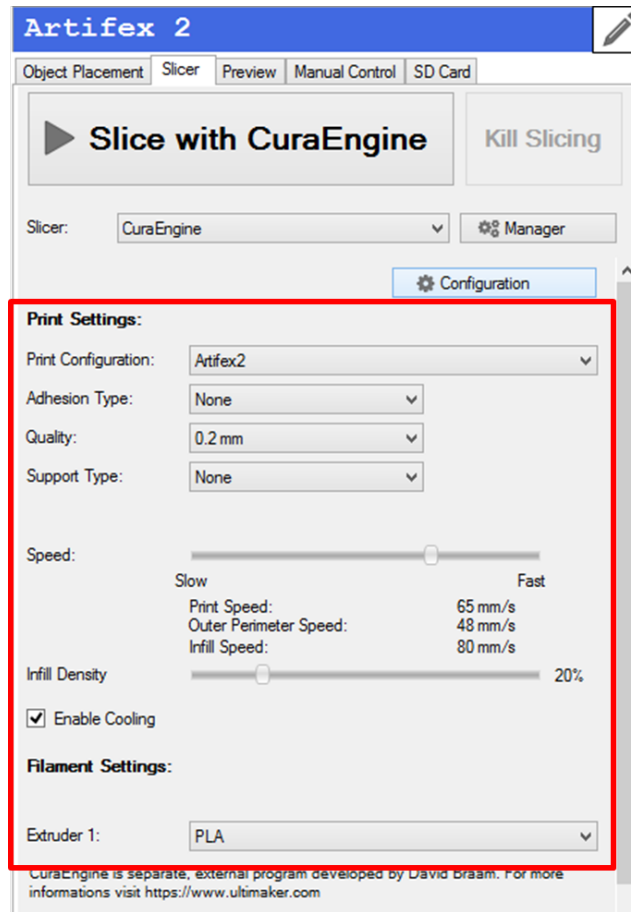

Figure 3.11: Specifying CuraEngine slicing parameters for printing with PLA
- Then, select the print and filament settings on the right window (Figure 3.11). Additional options of Adhesion Type, Quality, Support Type, Speed, Infill Density, Enable Cooling can be specified for the CuraEngine slicer. In Figure 3.11, the default quality of 0.2mm, a medium speed and a 20% infill density were selected, and the cooling was enabled for PLA printing.